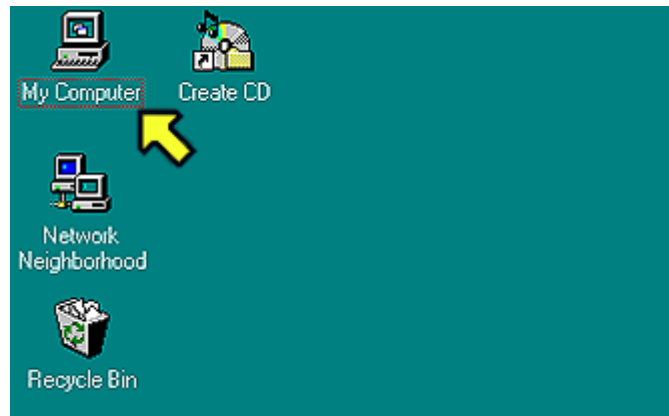

Figure 12
- 116 On the Data Processing Computer desktop, select the "My Computer" icon. See the arrow in Figure 12.